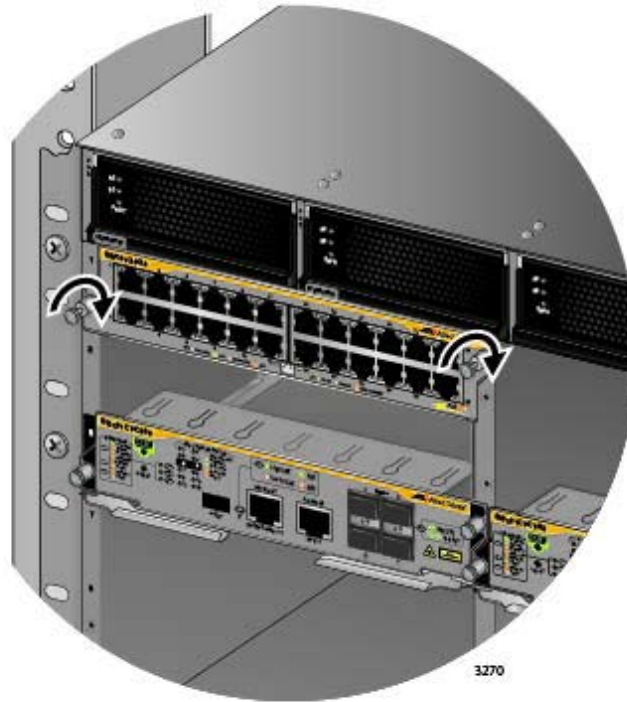

Figure 99. Tightening the Thumb Screws on an Ethernet Line Card
8. Finger tighten the two thumbscrews on the sides of the line card to secure it to the chassis, as shown in Figure 99 on page 170.